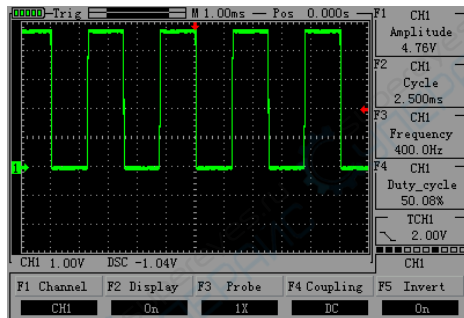

Figure 2-10
- If you set the vertical direction 1.00V/div, the steps in the above example. As Figure 2-10